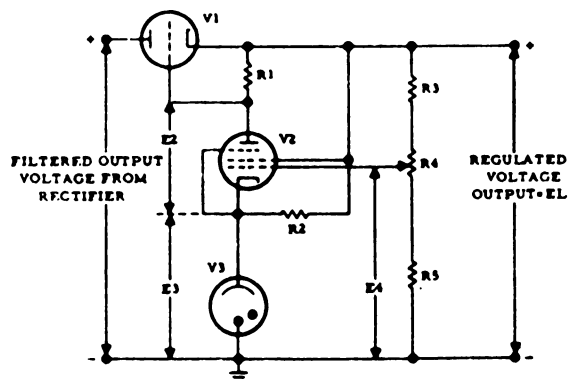

Figure 2-14. Electronic voltage regulator.
By taking advantage of the high amplification of pentode vacuum tubes, voltage-regulator circuits have been devised to give output voltages of very high stability. One such circuit, shown in figure 2-14, provides an output which is independent of both rectifier output and load conditions over a wide range. The regulated output voltage appears across the series bleeder resistors R3, R4, and R5. This output voltage is in series with V1, whose resistance (bias) is varied by the rest of the circuit. These variations in plate resistance keep the output voltage constant.
**Exercises (227):**
1. Is the regulator in figure 2-14 series or shunt?
227. From figure 2-14, determine whether the regulator is series or shunt; and state results if voltage output decreases.